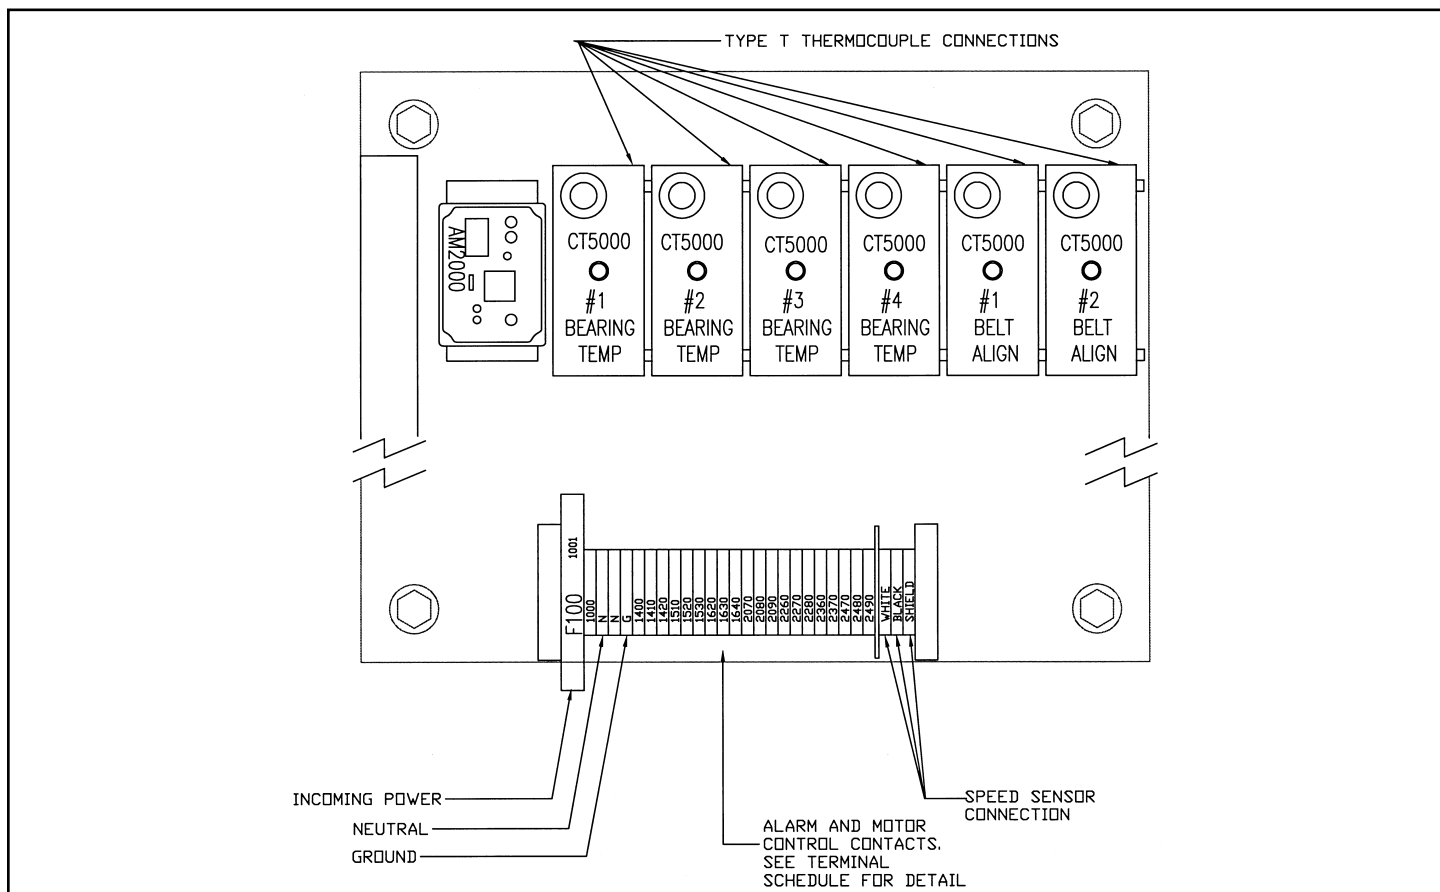

Figure 7
(see figure 7 & 8, page 8 & 9)
- 8.1 Connections to the AM2000 motion switch are shown on figure 7 & 8, page 8 & 9. Also refer to figures 7 & 8 and drawing A6000-E2 for suggested wiring diagram.
9.2 Run type T thermocouple extension wire from each plug to the control panel. Connect the red (-) and blue (+) leads to terminal block TB1 of the designated control module. **Maintain continuity.** (see figure 7 & 11, page 8 & 12)
10.2 Run type T thermocouple extension wire from each plug to the control panel. Connect the red (-) and blue (+) leads to terminal block TB1 of the designated control module. **Maintain continuity.** (see figure 7 & 11, page 8 & 12)
- 11.5** Return slide switch SW2 to the OP position. The meter will now display the operating speed. The set points will still function properly if the slide switch is in the SP2 or SP1 position. (see figure 7, page 8)